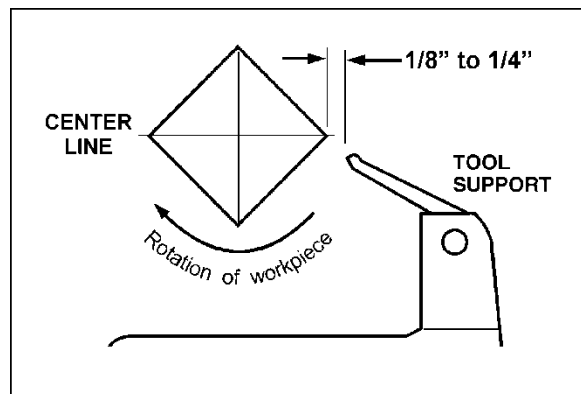

Figure 29
10. Move tool support into position. It should be parallel to the workpiece, just below the centerline and approximately 1/8" to 1/4" from the corners of the workpiece to be turned, as in Figure 29. Tighten support base to Lathe bed.